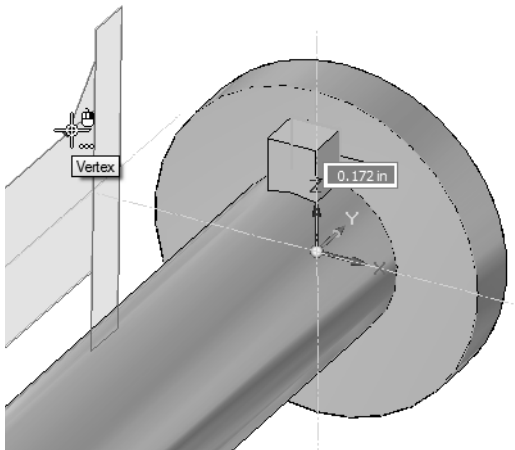

Figure 12-52 Extrusion height of the rib
2. Snap the extrusion height to the rib on the front view, as shown in Figure 12-52; the extrusion feature is created.